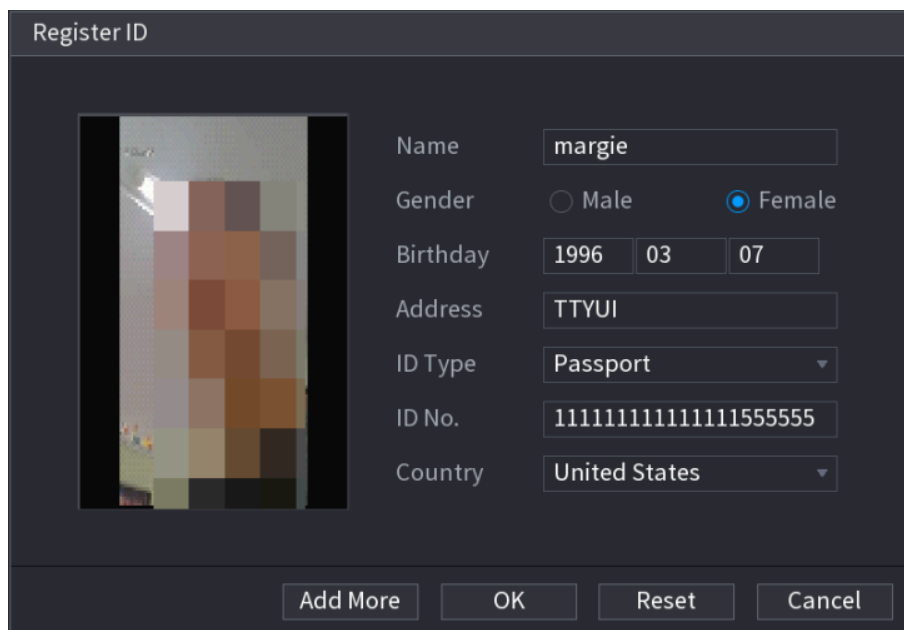

Figure 5-143
**Step 5** Select a face picture and enter the registration information. See Figure 5-143.